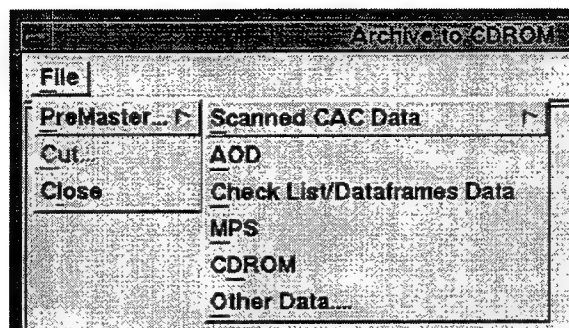

Fig. 34 — Archive to CDROM window
3.3.6.2.1 Archive Data To CDROM — This option “premasters” a set of data into a CD image and writes the data to a CD. The CD images conform to the International Standards Organization (ISO) 9660 standard for optical disk formats. When a user selects this option, MMC opens the **Archive to CDROM Window** (Fig. 34). Click on *Premaster* and select the data type to be archived: *Scanned CAC Data*, *Aircraft Optical Data*, *Checklists/Dataframes Data*, *Mission Planning Data*, *CDROM*, or *Other Data*. MMC will build an ISO 9660 Image from that data. If the user has built an ISO Image before, MMC will prompt the user to delete that file before building a new one. After premastering the data into an ISO Image, select *Cut* to actually copy the data to a CD. When finished, select *Close* to return to the **MMC Window**. There are six data types that MMC can archive to CD: